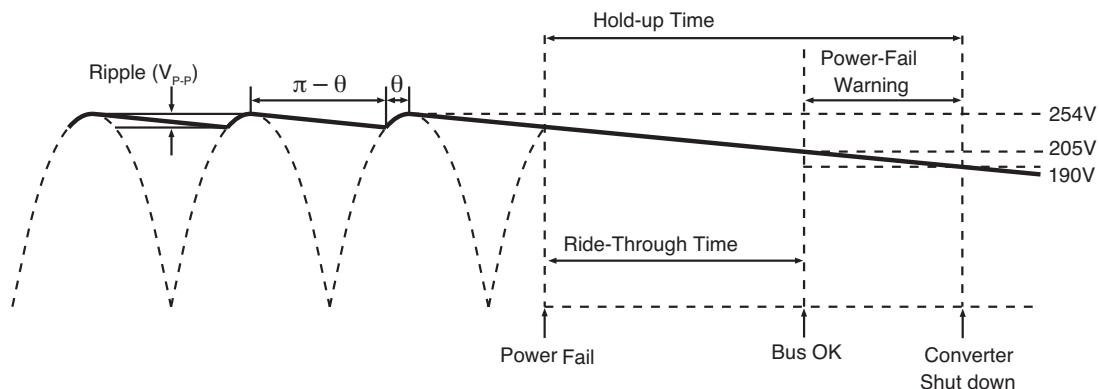

Figure 13 — Hold-up time
***Hold-up Capacitors:*** Hold-up capacitor values should be determined according to output bus voltage ripple, power fail hold-up time, and ride-through time (See Figure 13). Many applications require the power supply to maintain output regulation during a momentary power failure of specified duration, i.e., the converters must hold-up or ride-through such an event while maintaining undisturbed output voltage regulation. Similarly, many of these same systems require notification of an impending power failure in order to allow time to perform an orderly shut down.
The power fail warning time ( $\Delta t$ ) is defined as the interval between B OK and converter shut down (EN) as illustrated in Figure 13. The Bus-OK and Enable thresholds are 205V and 190V, respectively. A simplified relationship between power fail warning time, operating power, and bus capacitance is obtained by inserting these constants:
For example, a converter whose output is 15V and nominal input is 300V will provide approximately 56dB ripple rejection, i.e., 10VP-P of input ripple will produce 15mVP-P of output ripple (See Figure 17). Equation 3 is again used to determine the required capacitance. In this case, V1 and V2 are the instantaneous values of bus voltage at the peaks and valleys (See Figure 13) of the ripple, respectively. The capacitors must hold-up the bus voltage for the time interval ( $\Delta t$ ) between peaks of the rectified line as given by: